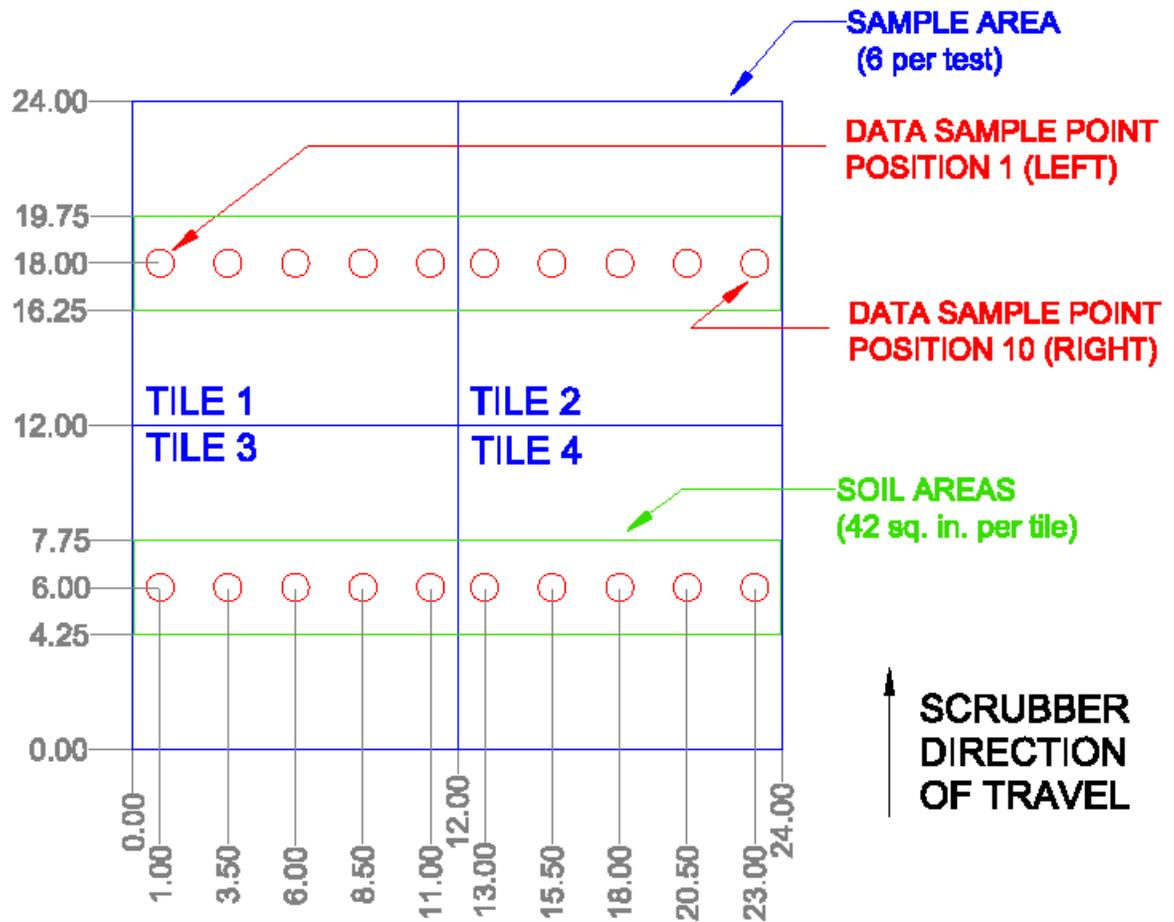

Figure 3-2: Soil application and data sampling area (*Cleaning Efficacy Testing Protocol for Tennant ech20™ System, Figure 1*)
- E Gloss and colorimeter readings are to be taken of the finished floor tiles prior to soiling. Refer to Figure 3-2 (*Cleaning Efficacy Testing Protocol for Tennant ecH2O™ System*, Figure 1) for sampling areas. Floor finish must be fully cured prior to taking readings.
- A Modification of *ASTM D4488* (Section A5) method is required to cover large area. Template shall have a 3.5 inch by 12 inch opening. Soil to be applied per Figure 3-2.
- G Gloss and colorimeter readings are to be taken of the soiled floor tiles prior to cleaning. Refer to Figure 3-2 for sampling areas. This should only be done after the drying period.